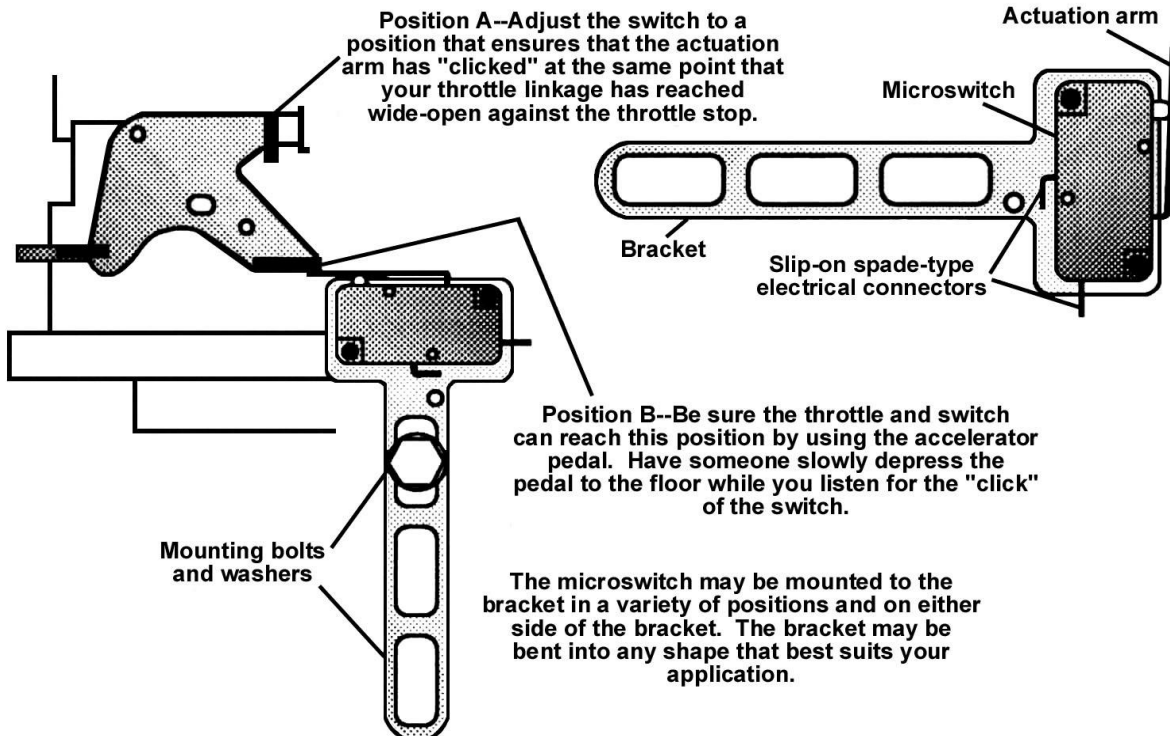

Figure 10 Microswitch Mounting
- B. Adjust the microswitch to trigger at wide-open throttle by adjusting the microswitch's position to ensure the actuation arm of the microswitch —“clicks” at the same point your throttle linkage reaches wide-open throttle against the throttle stop (Figure 10, Position A).
- C. Ensure that the throttle and switch can reach the activation position, as shown in Figure 10, Position B, by using the accelerator pedal. Have an assistant slowly press the pedal to the floor while you listen for the —“click” of the microswitch.
3. Install the NOS arming toggle switch (18) in the vehicle interior, within easy reach of the driver. This switch is to be used to activate the nitrous system once safe engine RPM levels are reached.